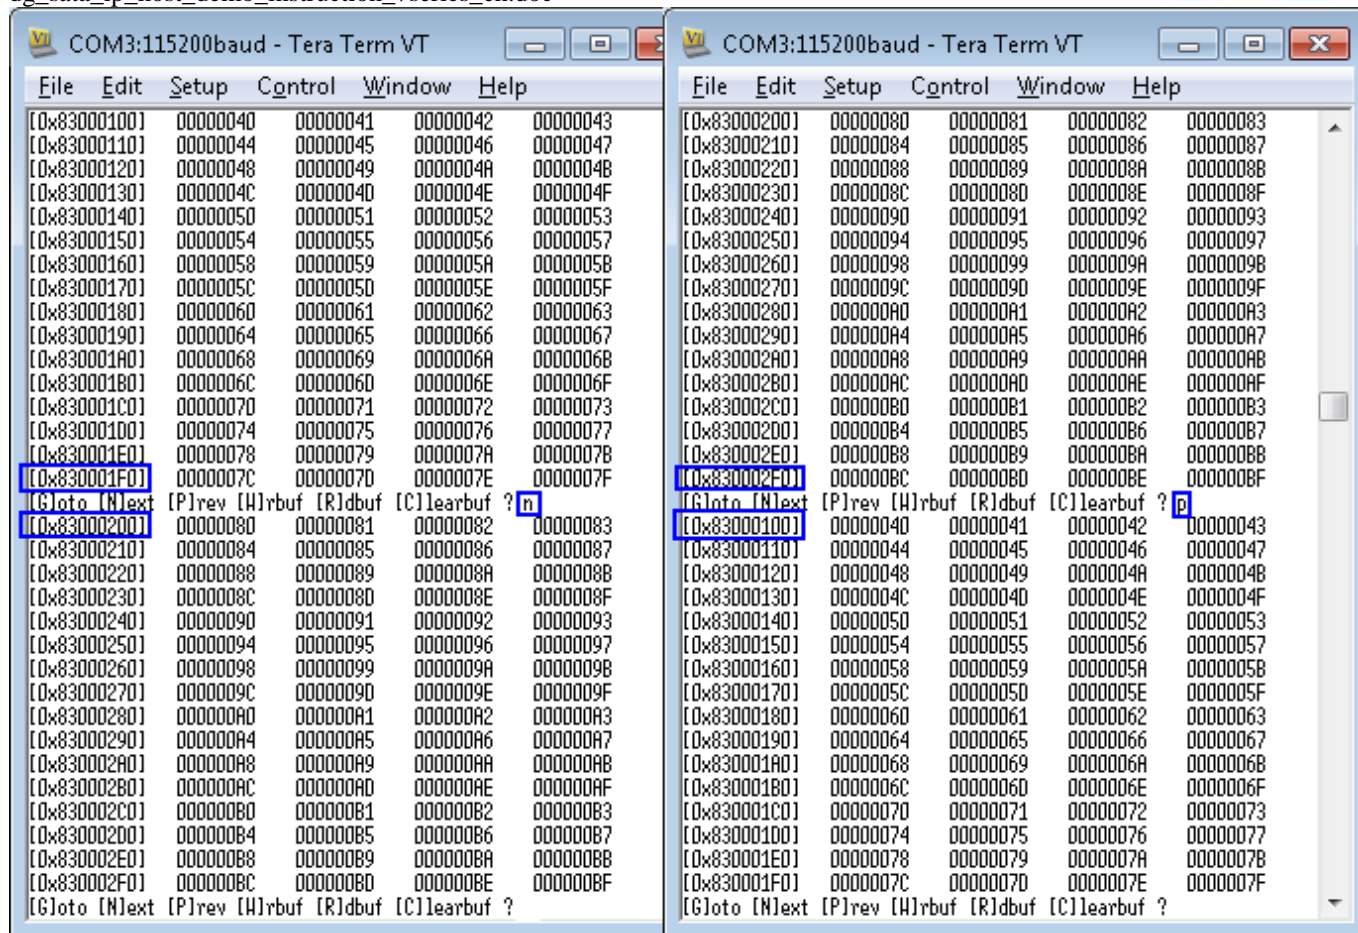

Figure 3-11 Read Next/Previous 256 byte data in buffer
- 'N': this submenu is used to read next 256 byte data in buffer, as shown in Figure 3-11.
- 'P': this submenu is used to read previous 256 byte data in buffer, as shown in Figure 3-11.